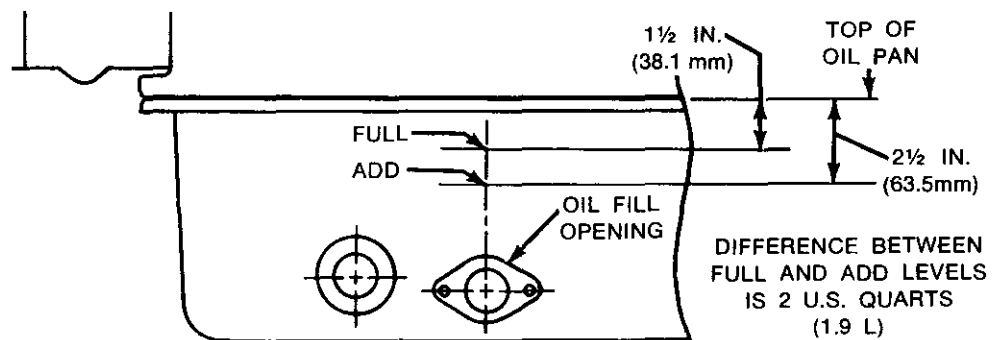

Fig. 5-1. Transmission oil levels
- The proper Full and Add oil levels (hot) in the transmission oil pan are shown in figure 5-1.
- The Full and Add marks on the dipstick should coincide with the oil levels shown in figure 5-1.
- Note carefully the conditions, specified in figure 5-1, under which the oil must be checked.